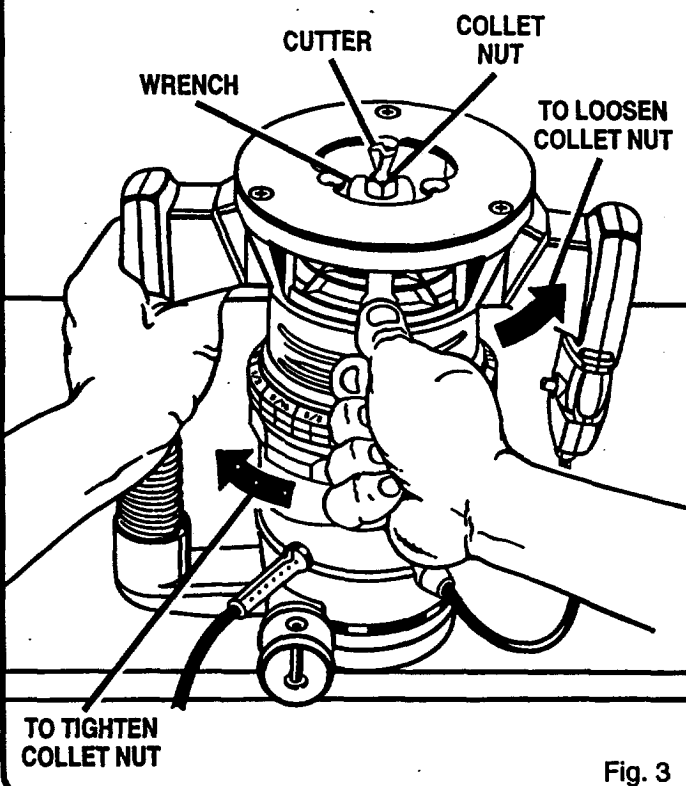

Fig. 3
- Place your router upside down on table, then turn collet nut with wrench until lock mechanism interlocks. See Figure 3.
- Remove cutters by turning collet nut counterclockwise enough to allow cutter to slip easily from collet. See Figure 3. The collet is machined to precision tolerances to fit cutters with 1/4 in. diameter shank size.
- Tighten the collet nut securely by turning clockwise with the wrench provided. See Figure 3. Push spindle lock in and slide into unlock position. Otherwise, the